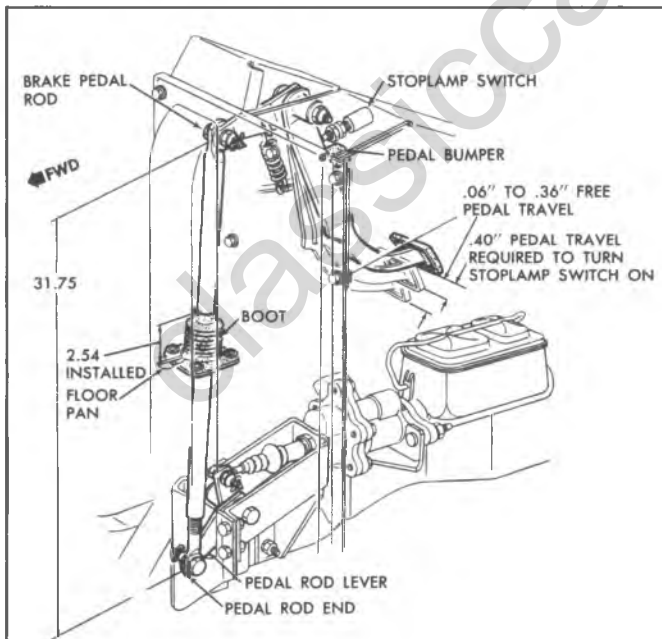

Fig. 94--Brake Pedal and Stop Lamp Adjustment--P30(32) Model
NOTE: Pre-assembled brake pedal rod assembly should be adjusted to dimension shown in Figure 94.
2. Adjust free pedal travel by turning the brake pedal rod end. Free pedal travel should be .06" to .36" (fig. 94).
#### Replacement (Fig. 94)
11. Fasten the boot to the floorpan and compress the boot to 2.54" installed height; tighten the boot screws to 13-18 in. lbs. Refer to Figure 94.